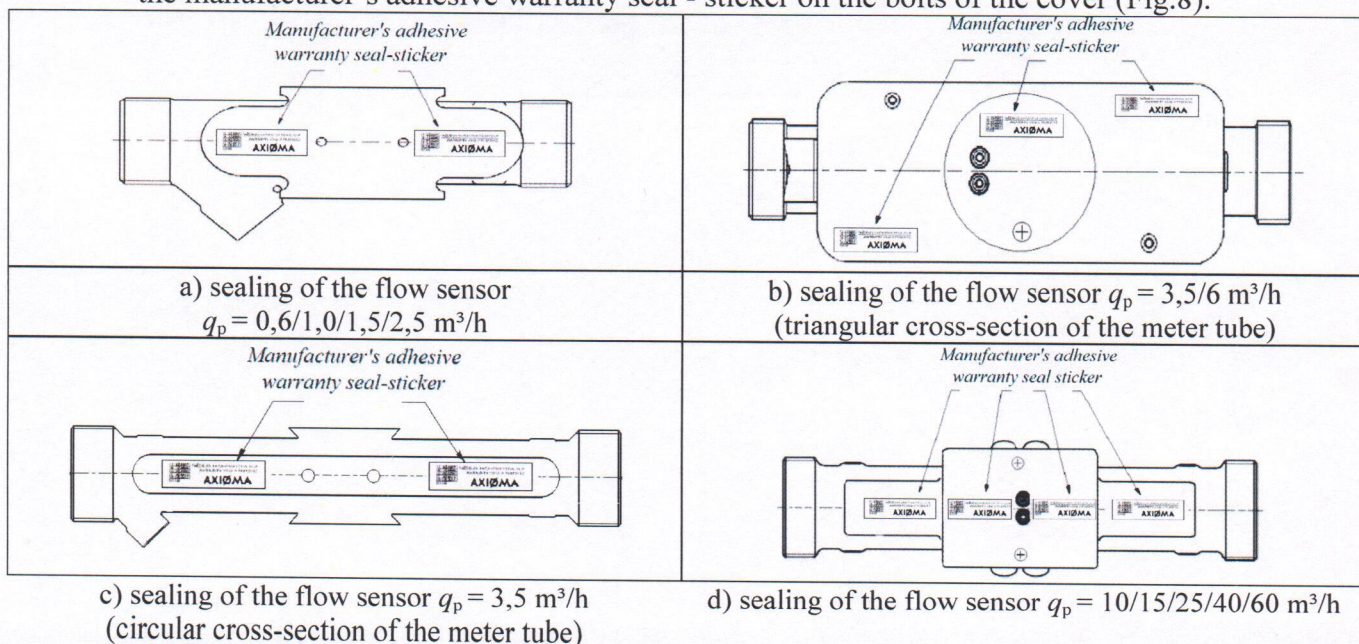

Fig.8. Sealing of the flow sensor
- the manufacturer's adhesive warranty seal - sticker on the bolts of the cover (Fig.8).